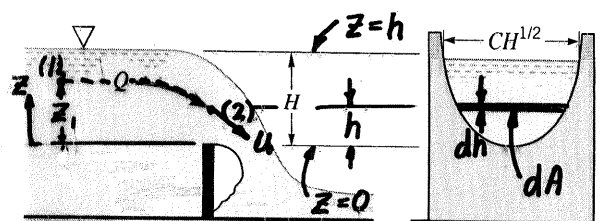

FIGURE P3.90
3.90 Water flows over a weir plate (see Video V10.7) which has a parabolic opening as shown in Fig. P3.90. That is, the opening in the weir plate has a width $CH^{1/2}$, where C is a constant. Determine the functional dependence of the flowrate on the head, $Q = Q(H)$.